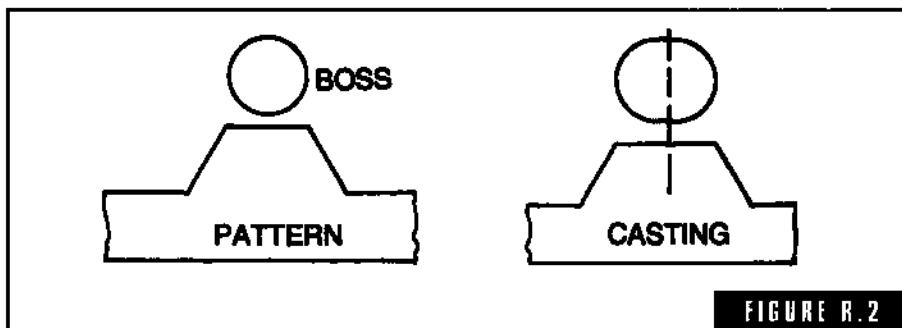

FIGURE R.2
**ram-away** A defect caused by molding with a sand that has poor flowability and ramming at the wrong angle (Fig. R-2). A section of the mold is forced away from the pattern by ramming sand after it has conformed to the pattern contour.